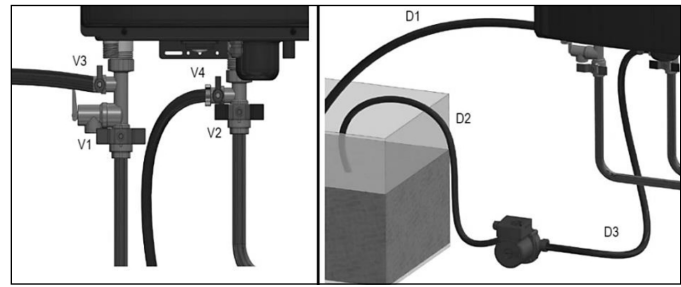

Figure 64 - Flushing the Boiler
2. Close the shutoff valves on both CH supply and return lines (V1 and V2). See Figure 64.
3. Connect one hose (D1, Figure 64) to the valve (V3) and place the free end in a bucket. Connect one of the hoses (D3) to the circulation pump outlet and the cold water inlet line to valve V4. Connect the other hose (D2) to the circulation pump inlet and place the free end in the bucket.